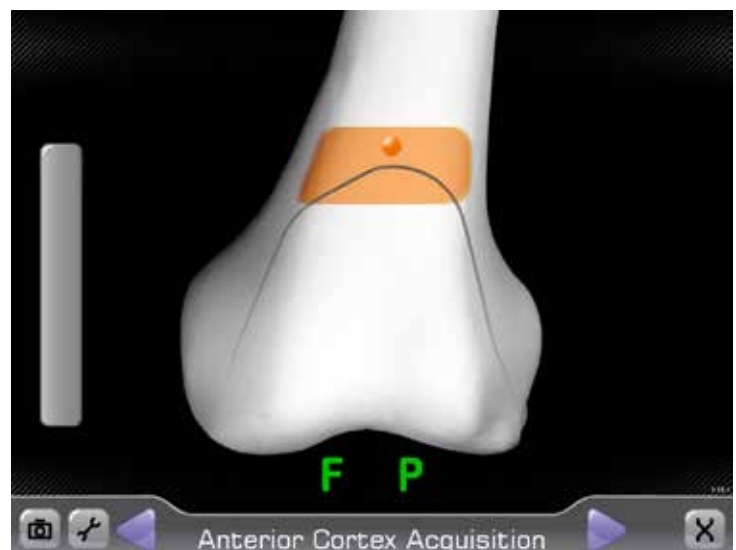

Figure 17
The *Anterior Cortex Acquisition* screen is displayed (Figure 17). Based on the previous registrations, the system determines the approximate femoral component size and requires registration of points within the patch displayed. The relative location of the tip of the Probe Tracker (P) will be shown as an orange dot on the display. Position the tip of the Probe Tracker (P) so the dot is within the patch displayed and press the Forward button. Ensure the tip of the tracker maintains contact with the anterior cortex and trace within the patch. Ensure that points are acquired in both the medial and lateral sides of the patch area.